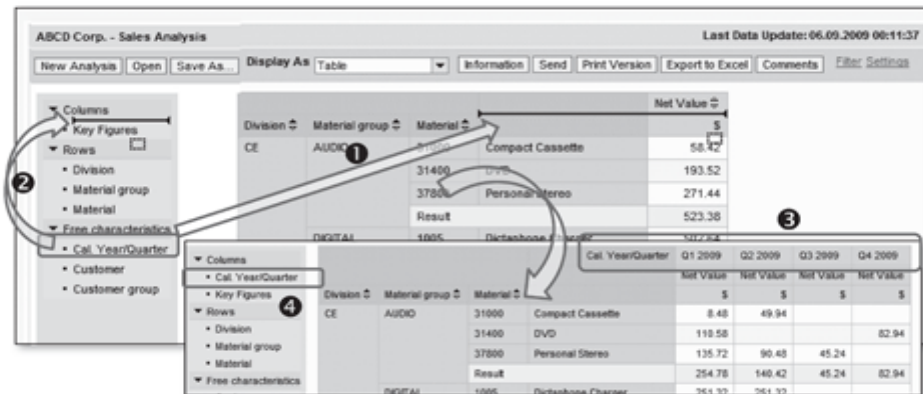

Figure 10.49 Navigation: Add Drilldown
- Add Drilldown: To add a drilldown to the analysis (in rows or columns), you have to drag the relevant characteristic from the navigation pane and then drop it in the layout, as shown in ❶ of Figure 10.49. The same navigation can be achieved by placing the characteristic in the required section on the navigation pane (❷). In the example shown in Figure 10.49, the Cal Year/Quarter characteristic is added to the columns (❸ and ❹).